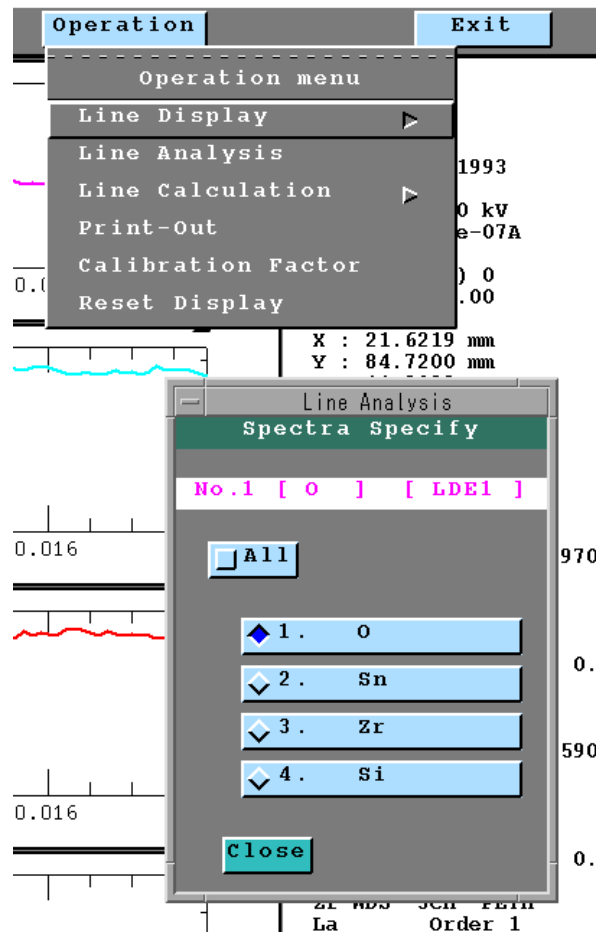

Fig. 25 Spectra Display, Operation menu and Spectra Specify window
Spectra in the Line Analysis function window as well as the Spectra Specify window are displayed as shown in Fig. 25.
2. Click on the button of the desired spectrum number in the Spectra Specify window (refer to Fig. 25).